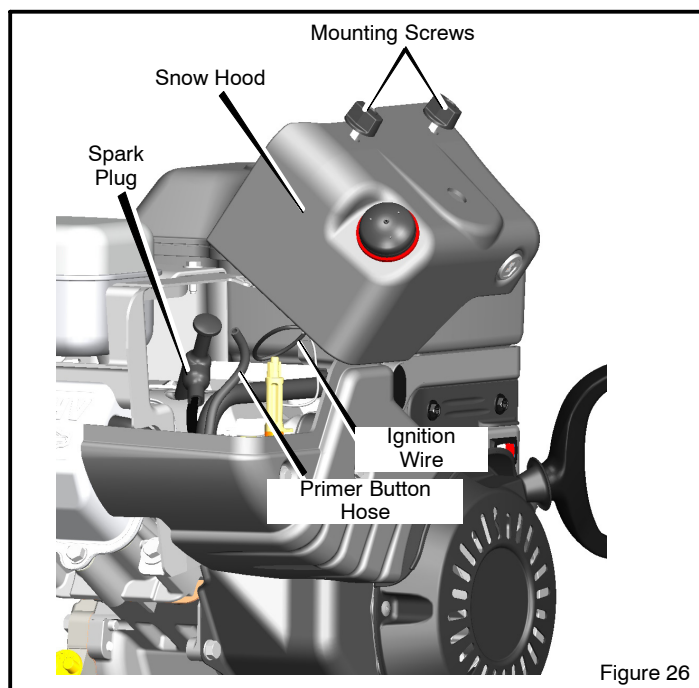

Figure 26
3. Remove the **mounting screws** (see Figure 26).
7. Mount the snow hood to the engine and secure with the mounting screws (see Figure 26).